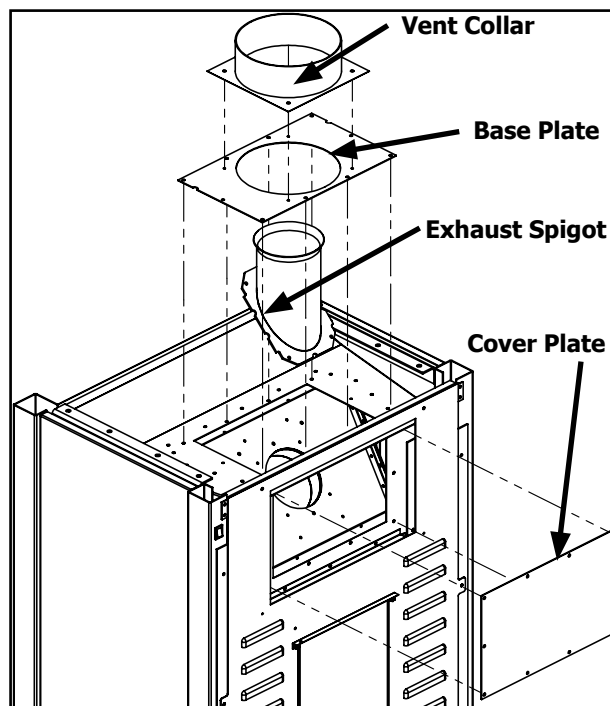

Figure 18. Vent Conversion - Step 2
**Step 2:** Next, remove the vent collar, base plate, cover plate and exhaust spigot (28 screws total) as shown in Figure 18.